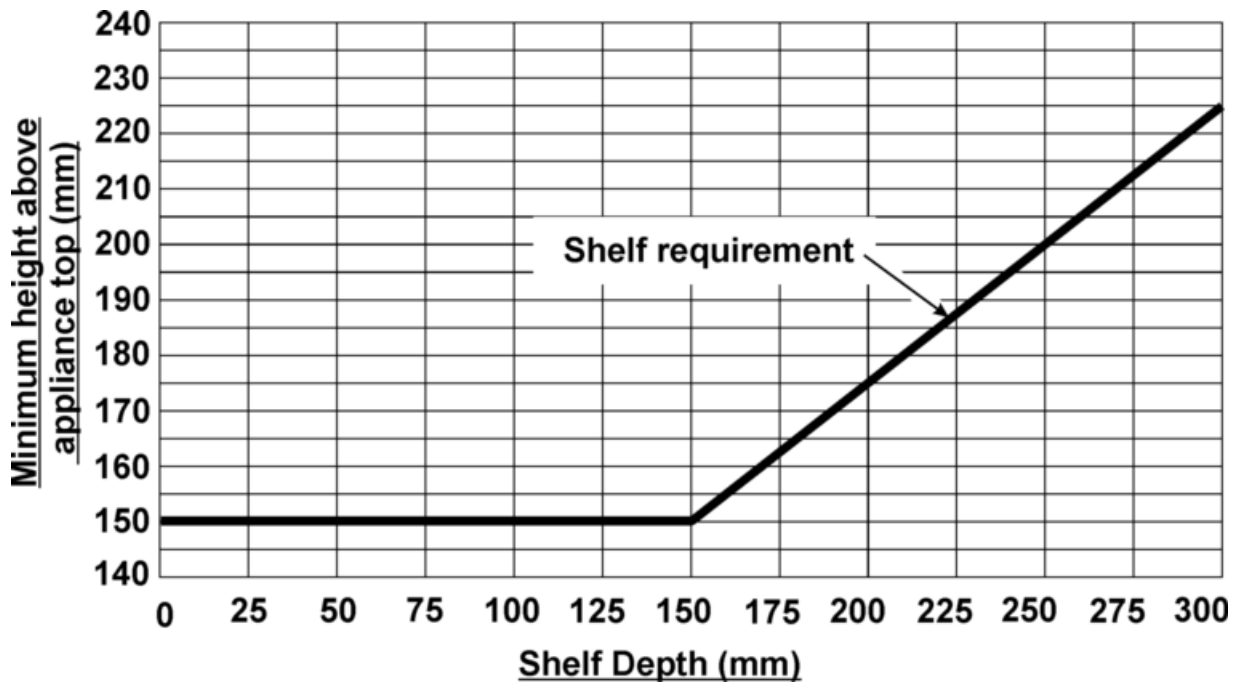

Figure 1. Combustible shelf clearances
**Do** allow a minimum clearance of 150mm from the top of the appliance fascia to the underside of any shelf made from non-combustible materials. This clearance is necessary to allow the fascia to be lifted off for servicing. For a shelf made from wood or other combustible materials the minimum clearance from the top of the appliance fascia to the underside of the shelf is 150mm, for combustible shelves deeper than 150mm add 12.5mm to the clearance for every 25mm of additional shelf depth (See figure 1). Please bear this in mind if ever you add a shelf.